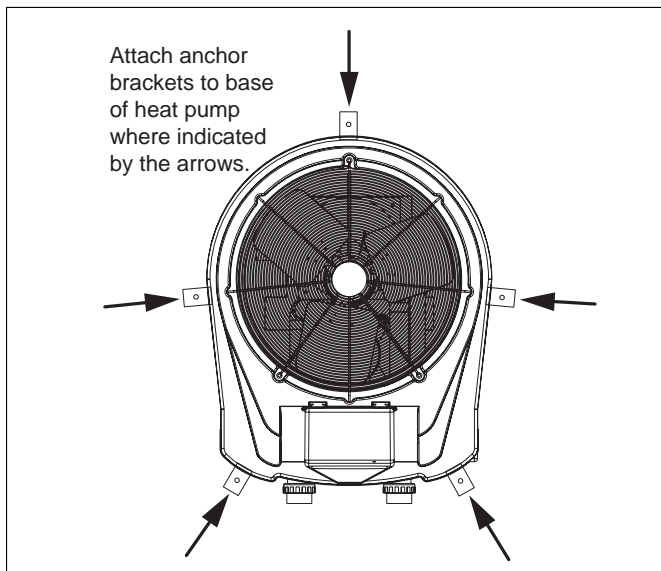

Figure 2. Anchor Clamp Positions
3. Place the clamps at the base of the heat pump in the locations indicated in Figure 2.